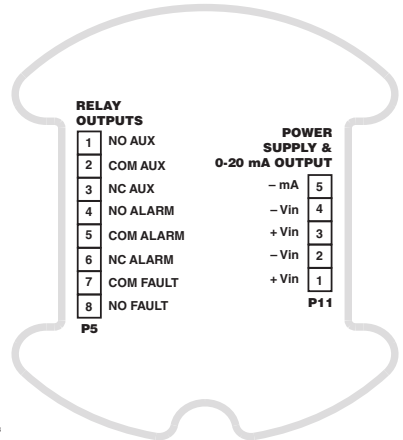

Figure 9—U5015 Wiring Terminals
- Figure 9 shows the wiring terminals.